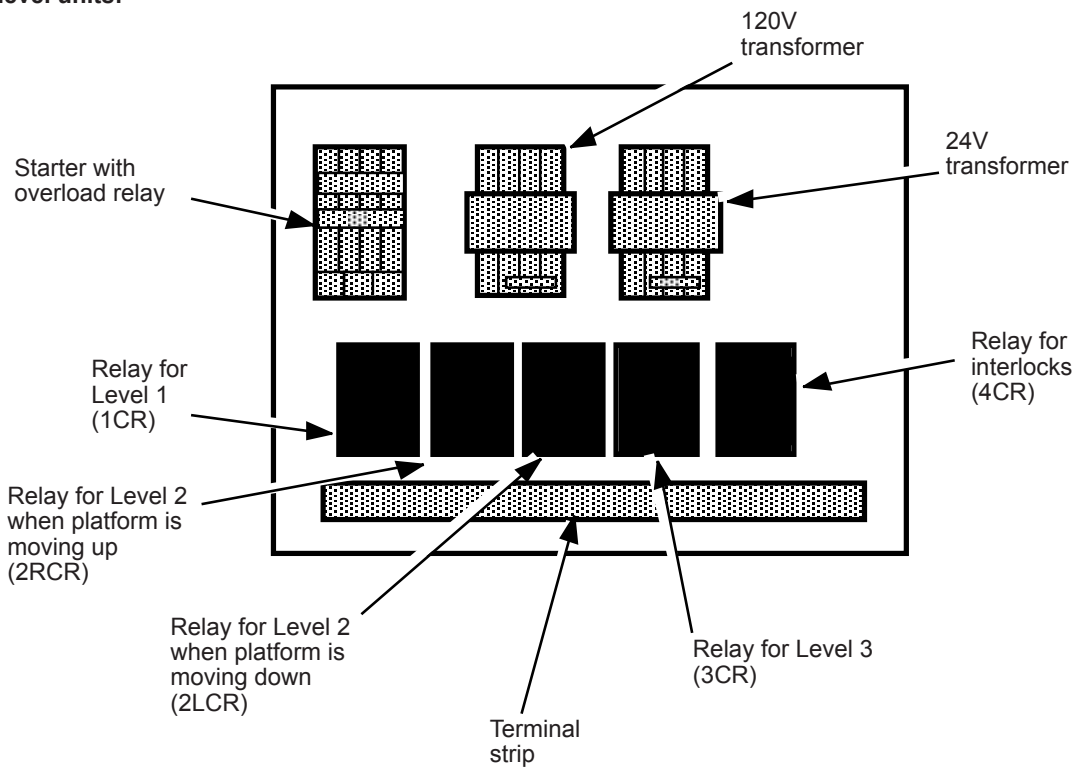

Fig. 2-2 – Control Enclosures
3. Make temporary power connections to the lift. See Fig. 2-2. Incoming three-phase power should be terminated at the terminals marked L1, L2 and L3